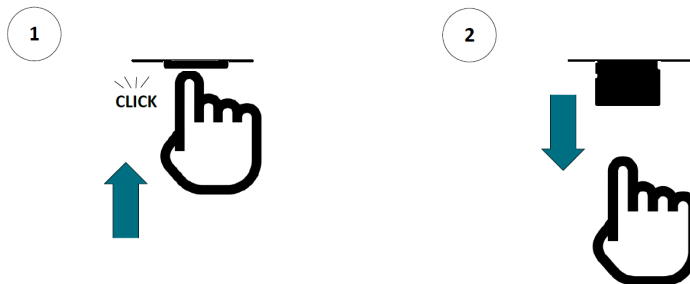

Fig. 6.3: SD card extraction
2. Remove the SD cards: to extract the SD card, push and release as in **Fig. 6.3**; the card will be ejected and available for removal. The device will wait until at least one SD card has been re-inserted.